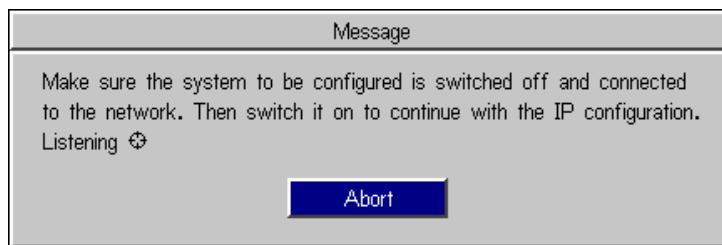

Figure C-4: IP Configuration Message Box
11. Click OK. The message box shown in Figure C-4 appears.